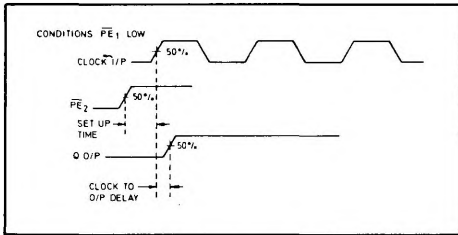

Fig. 3 Set-up timing diagram
- Set-up time is defined as the minimum time that can elapse between a L $\rightarrow$ H transition of a control input and the next L $\rightarrow$ H clock pulse transition to ensure that the  $\pm 5$  mode is forced by that clock pulse (see Fig. 3).